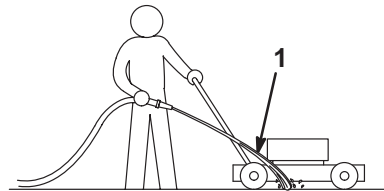

Figure 14
- Hold the running garden hose at handle level and direct the water to flow on the ground just in front of the right rear tire (Fig. 14).